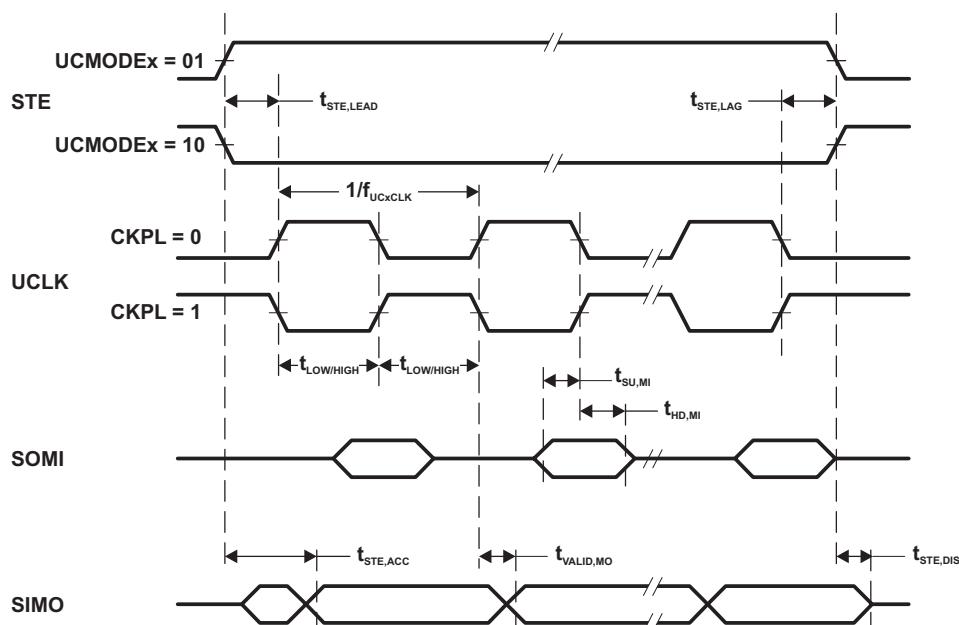
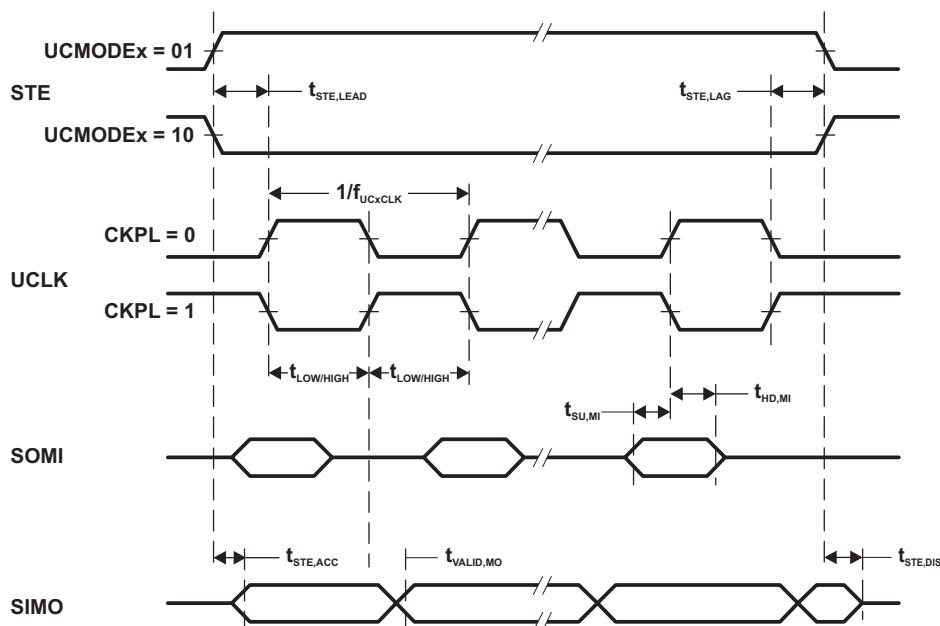

Figure 13. SPI Master Mode, CKPH = 0
Figure 14. SPI Master Mode, CKPH = 1
- (2) Specifies the time to drive the next valid data to the SIMO output after the output changing UCLK clock edge. See the timing diagrams in Figure 13 and Figure 14.
- (3) Specifies how long data on the SIMO output is valid after the output changing UCLK clock edge. Negative values indicate that the data on the SIMO output can become invalid before the output changing clock edge observed on UCLK. See the timing diagrams in Figure 13 and Figure 14.